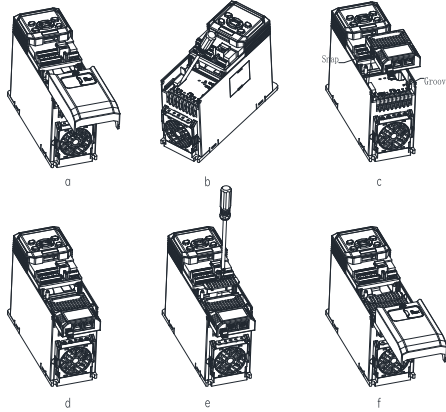

Fig. 5
- (1) When the drive is powered off, press the granulated part on the middle-upper of the lower cover, slide it down firmly to take down the cover, as shown in Fig. 5-a.
- (2) Use a straight screwdriver to pry open the dustproof cap, as shown in Fig.5-b.
- (3) Install the ECAT option: hold the expansion box (a bus card inside) upwards (indicators up), then align the expansion box with the electrical bus interface of the installation position 2, and press down horizontally to buckle the spring snap of the expansion box into the groove at the lower part of the drive, as shown in Fig. 5-c and d. Then, use the included retaining plate to secure the option and tighten it with screws (for enclosure B only), as shown in Fig. 5-e.
- (4) The bus card is successfully installed, as shown in Fig. 5-f.